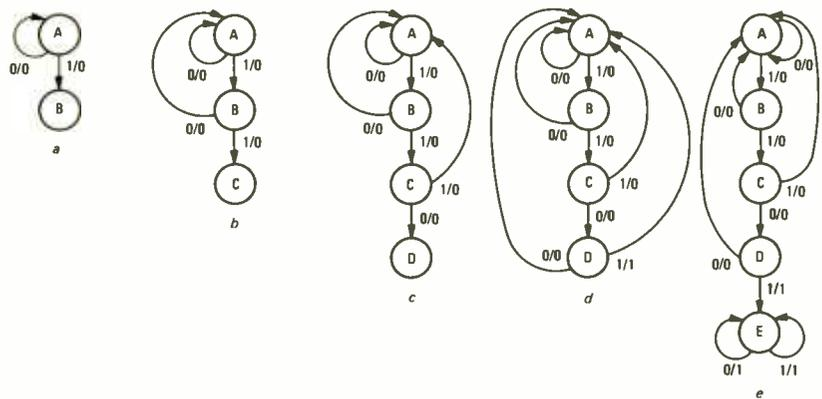

FIG. 22—STATE DIAGRAM is used in designing sequential logic circuits.
i.e., it may start at the first bit entered, or the third, etc. We start the state diagram by assuming an initial state which we call state A, and write this down in a circle. See Fig. 22-a. There are two possible occurrences at state A; we may receive either a 0 or a 1. If we receive a 0, we have not detected the start of the string 1101, so we draw an arrow from A back to itself and label it 0/0 (applied input/generated output). This means we follow this arrow if we are at state A and receive a 0-input, and the output of the circuit is to be 0. The arrow, of course, brings us back to state A to look for the first bit of the string.
go to a new state, called C, which tells us that we have received a 11 so far, and a 0 is to be output. See Fig. 22-b. We follow the same procedure with state C. At state D, if we receive a 0, we have received the string of 1100 instead of 1101, so we return to state A and output a 0. If we receive a 1, however, we have received the desired 1101 string. We now have two alternatives. If we wish to continue checking for the string, we can output a 1 and return to state A, as in Fig. 22-d, or
we could go to a new state, E, which simply ignores the remainder of the incoming data and outputs a constant 1 (or it could output a constant 0 or follow the incoming data). See Fig. 22-e.
Now, using Fig. 22-d, we put the diagram down in a state table, as shown in Fig. 23. The "Present State" (PS) column lists all the states that appear on the state diagram. The "Next State" (NS) column lists the next state to go to when the input is 0 ($x = 0$) or 1 ($x = 1$). For example, if we are at state A and receive an input of $x = 0$, the next state is A. If we receive an input of $x = 1$, the next state is B. The output column specifies the output to be produced when at the present state and an input of $x = 0$ or $x = 1$ is received. For example, the only time a 1 is output is when we are at state D and the input $x = 1$ is received.